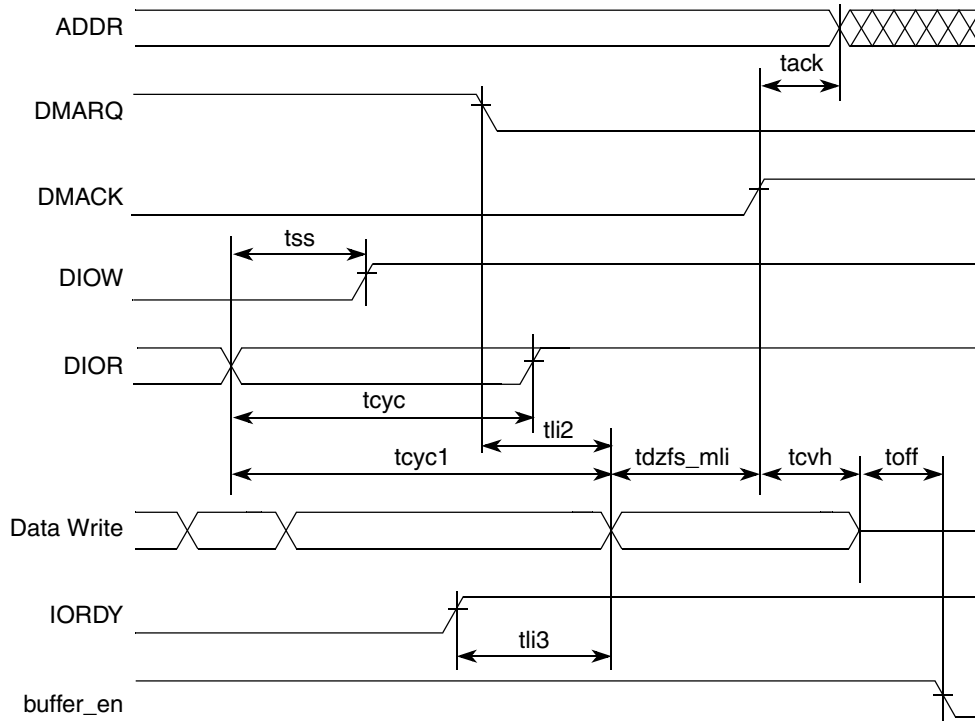

Figure 31. UDMA Out Host Terminates Transfer
- Figure 31 gives timing for host terminating UDMA out transfer